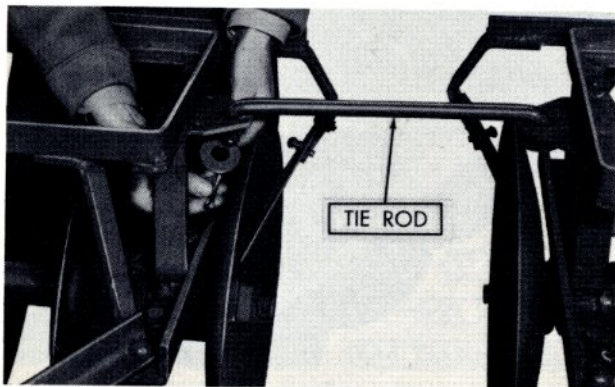

Figure 7
Step 5: Fasten the rear gang section tie rod to the rear gangs, as shown in Figure 7.